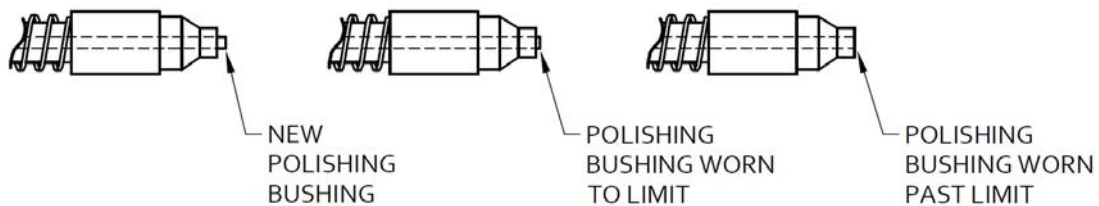

Figure 6.2
NOTE: The polishing bushing is good for only about 40 polishings (20 fibers). After this, the bushing should be discarded or it will damage end of contact. See Figure 6.2.
- NOTE: The polishing bushing is good for only about 40 polishings (20 fibers). After this, the bushing should be discarded or it will damage end of contact . See Figure 6.2.